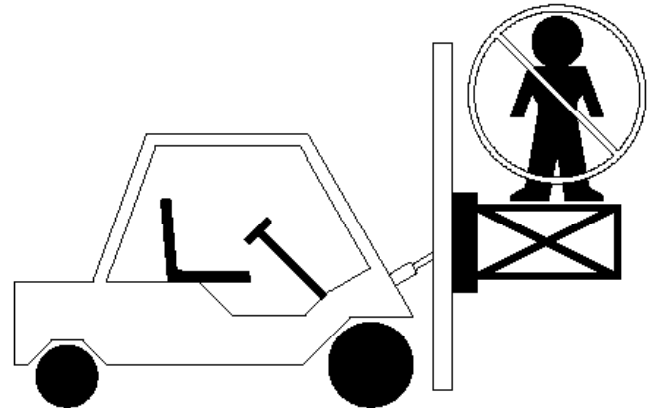

Figure 3-1
8. **Never** stand on top of material being raised, lowered, or transported. (Figure 3-1)